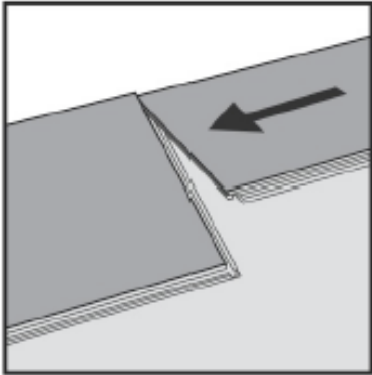
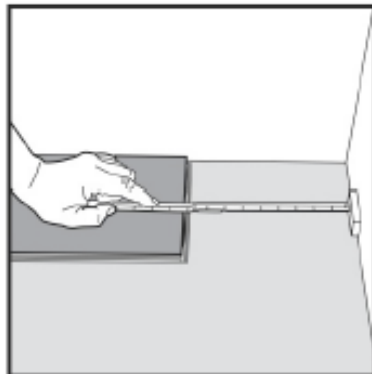

Figure 2.
Figure 4.
- iv. Begin installing the first row by laying a board down flat on the subfloor. (Figure 4) Align the end of the second board with the first and snap end-locking system together by simply pushing it straight down on top of the first board. Repeat this step to install the remaining boards in the first row. Cut the last board in the row to the remaining length. If leftover piece is 12" or longer, use it to begin the next row (Figures 2 and 3).